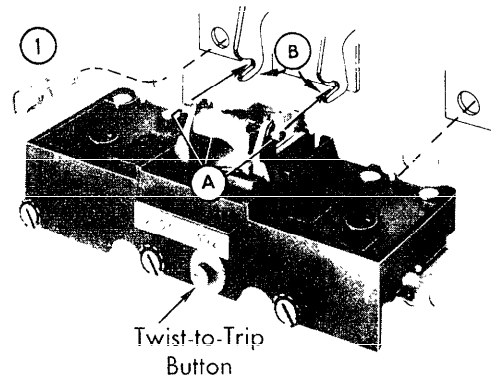

Figure 2
6. First unscrew outside pole screws, line side. (1) Figure 2, then center pole screw while removing trip unit.